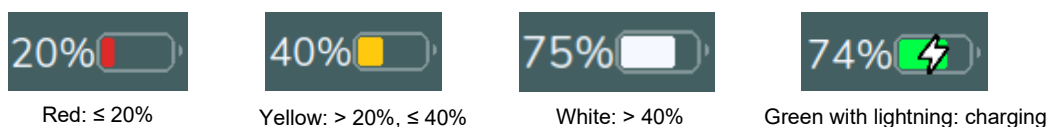

Figure 3 Battery level and charging indicators
- 5) Check the battery indicator in the upper right corner of the screen. The color of the battery icon indicates the power level. It is recommended to charge the portable image processor if the battery icon is red (see Figure 3 below).